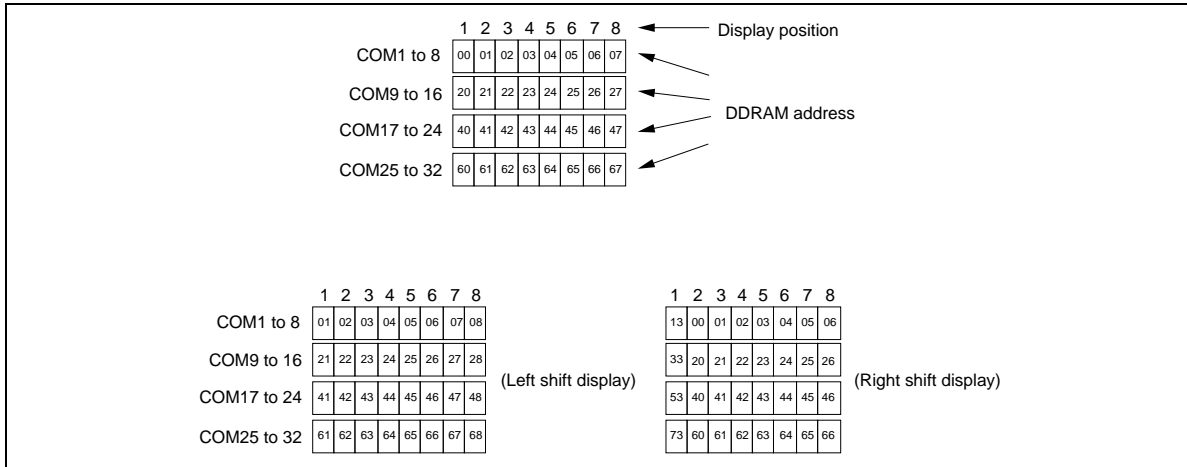

Figure 6 4-Line Display
- Case 1: The first line is displayed from COM1 to COM8, the second line is displayed from COM9 to COM16, the third line is displayed from COM17 to COM24, and the fourth line is displayed from COM25 to COM32. Care is required because the DDRAM addresses of each line are not consecutive. For example, the case is shown in Figure 6 where 8 × 4-line display is performed using the HD66710.
- When a display shift operation is performed, the DDRAM address shifts. See Figure 6.